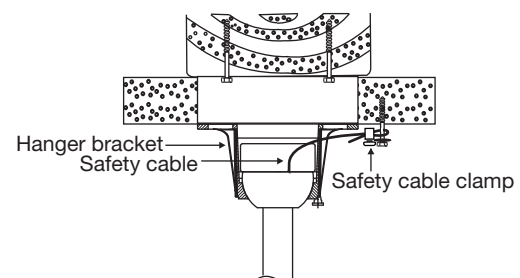

Fig. 4
NOTE: The tab opposite hanger bracket opening should fit in slot on ball. (Fig. 4)
Attach the lag bolt and flat washer to ceiling joist. Attach the safety cable to lag bolt. Slide cable clamp onto safety cable (from fan). Place the end of cable through the lag bolt. Pull as much cable through lag bolt as possible. Feed end of cable into clamp hole and firmly tighten screw (Fig. 4). Cut off excess safety cable.
- 2 Connect the black lead wires from the switch in the cradle A to the black wires in the switch box. Hot input wire to one of the cradle switch leads. Power lead to the fan is connected to the remaining switch lead. (Fig. 4)